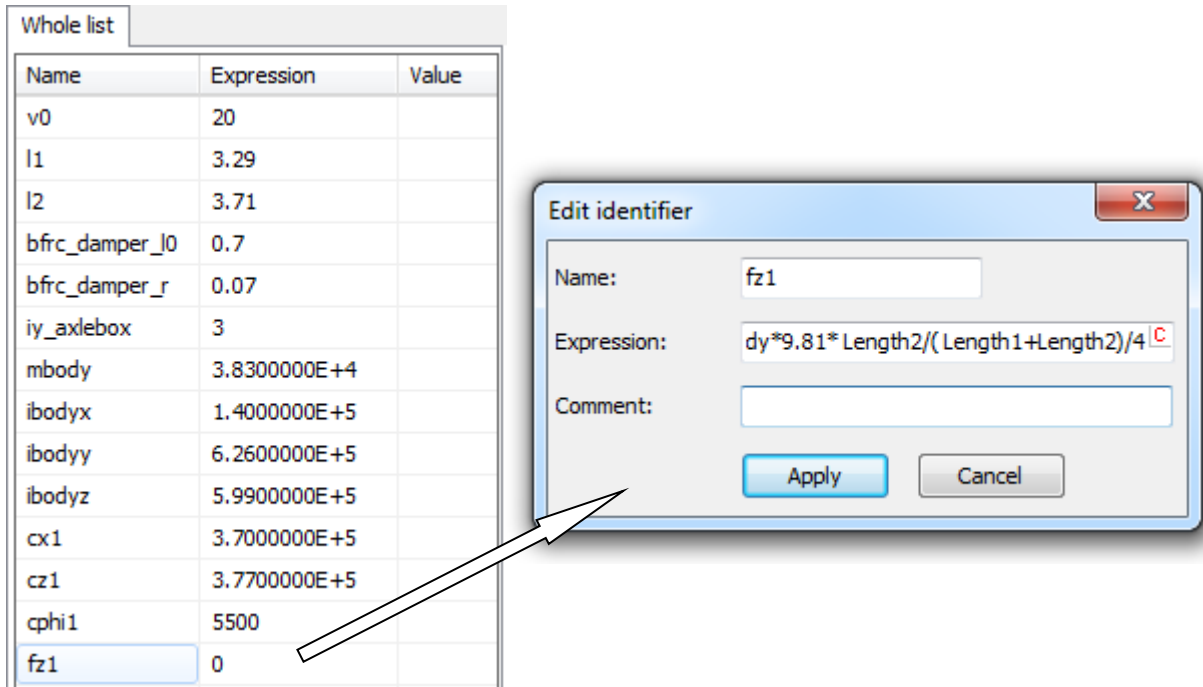

Figure 2.21. Static spring force as an expression
6. To insert this expression instead of the value of the identifier, double click by the left mouse button on the corresponding (**fz1**) row of the identifier list and write down the expression in the appeared window (Figure 2.21).